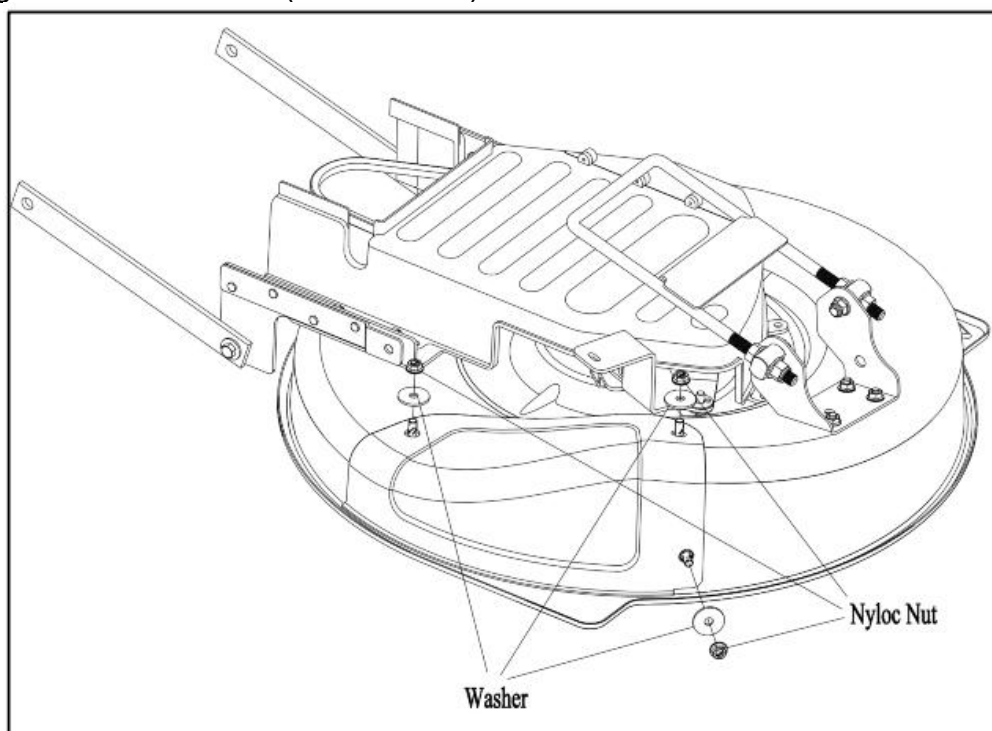

Figure 10
- 3) Mount the mulch plate(Figure 10).